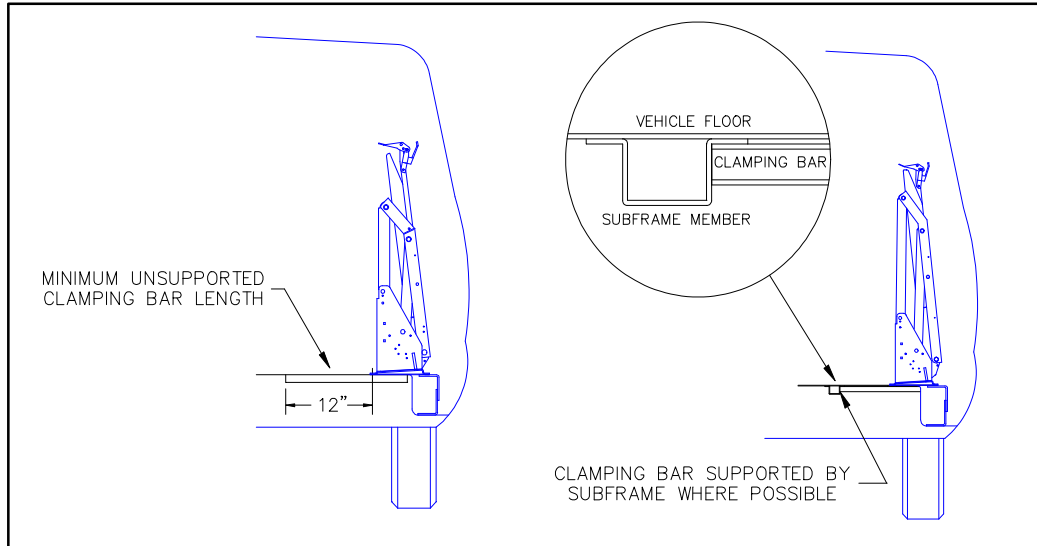

FIGURE 2-2: FORD VAN CLAMPING BARS
- Refer to **Figure 2-2**. On Ford van installations, clamping bars should be used to help distribute floor loading and should only be cut if needed to clear a subframe member. A subframe member should be used to support clamping bar.